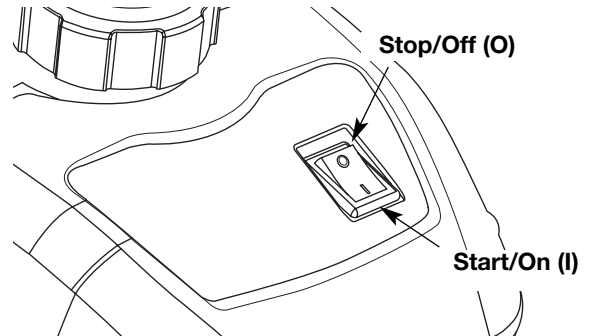

Fig. 6
2. Make sure the On/Off Stop Control is in the ON (I) position (Fig. 6).